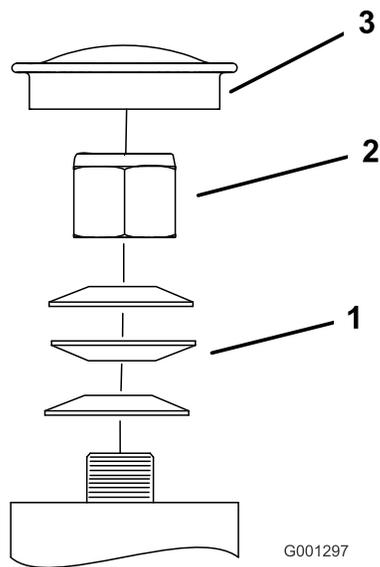

Figure 58
3. Remove the dust cap from caster and tighten lock nut (Figure 58).
4. Tighten the locknut until the spring washers are flat and then back off a 1/4 turn to properly set the pre-load on the bearings (Figure 58).
5. Install the dust cap (Figure 58).
Important: Make sure spring washers are installed correctly as shown in Figure 58.